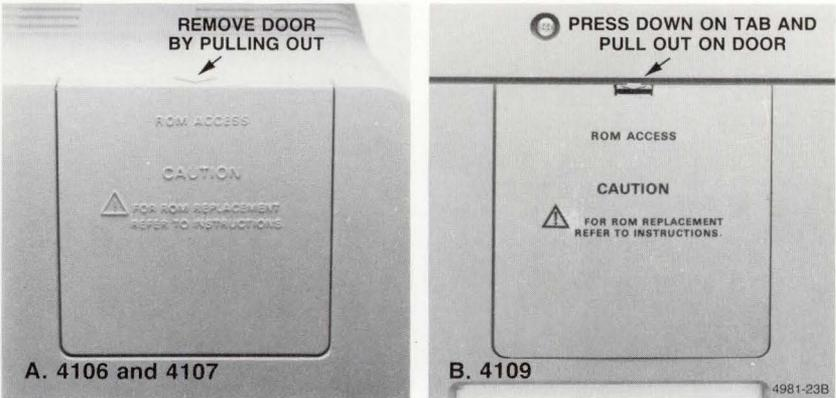

Figure D-1. *ROM* Access Door.
2. **Remove the *ROM* access door** located at the rear of the terminal (Figure D-1). Remove the door by pulling it out from the top, then set it aside. The *ROMs* are now exposed (Figure D-2a — next page).